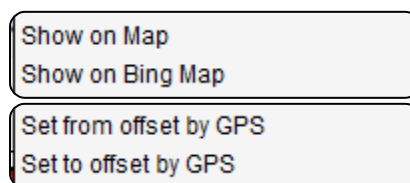

Figure 4-24. Other Work Target Pane Commands
- Optional commands (Figure 4-24) are available in the Work Target pane, as explained in Table 4-11.